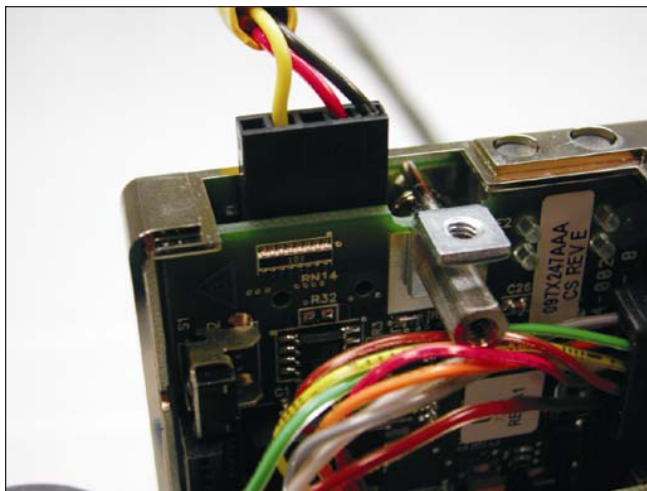

Figure B-4 Connecting to the SLA7950S Service Port
5. Plug the cable onto the service port as shown in Figure B-4.